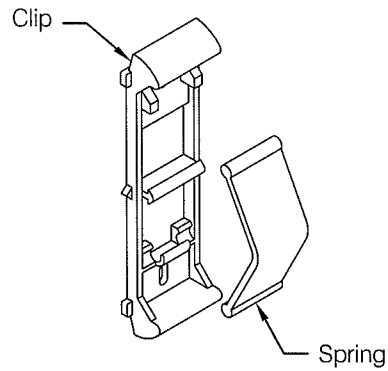
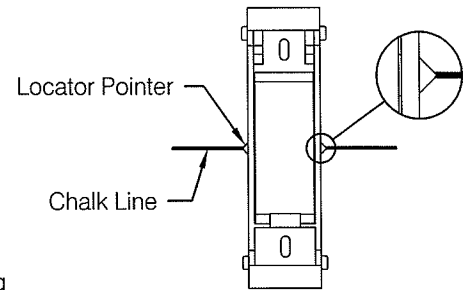

fig 2
fig 3
Step 2: Each Red-E-Clip® retainer consists of a base or "Clip" and an impact cushion or "Spring" shipped separately, see **fig 2**. Secure clips to wall by aligning the molded location pointers in the clip with the chalk line, see **fig 3**. While the clip may be installed either end up it is recommended that the spring socket be oriented down, see **fig 8**.